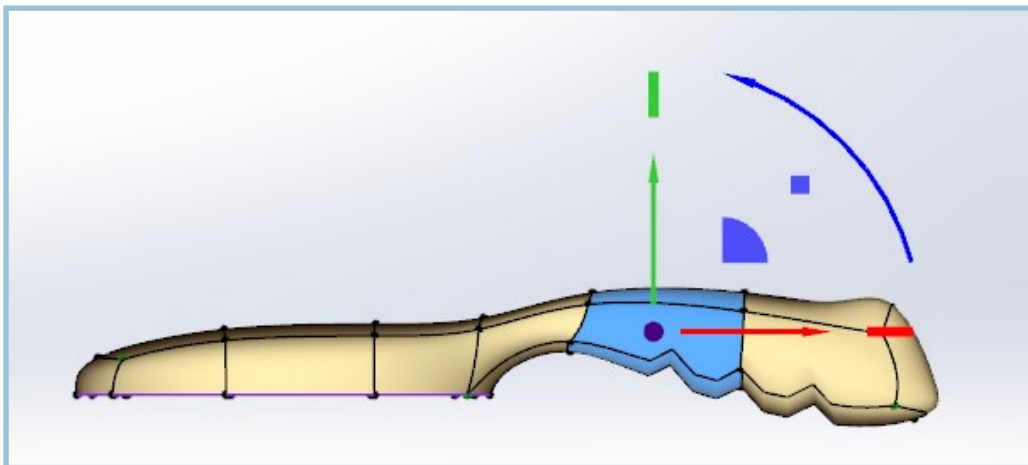

Figure 40 – Editing the base level after adding detail to some of the LOD levels
9. Make a change in the base level to see how the LOD levels respond, (Figure 40).